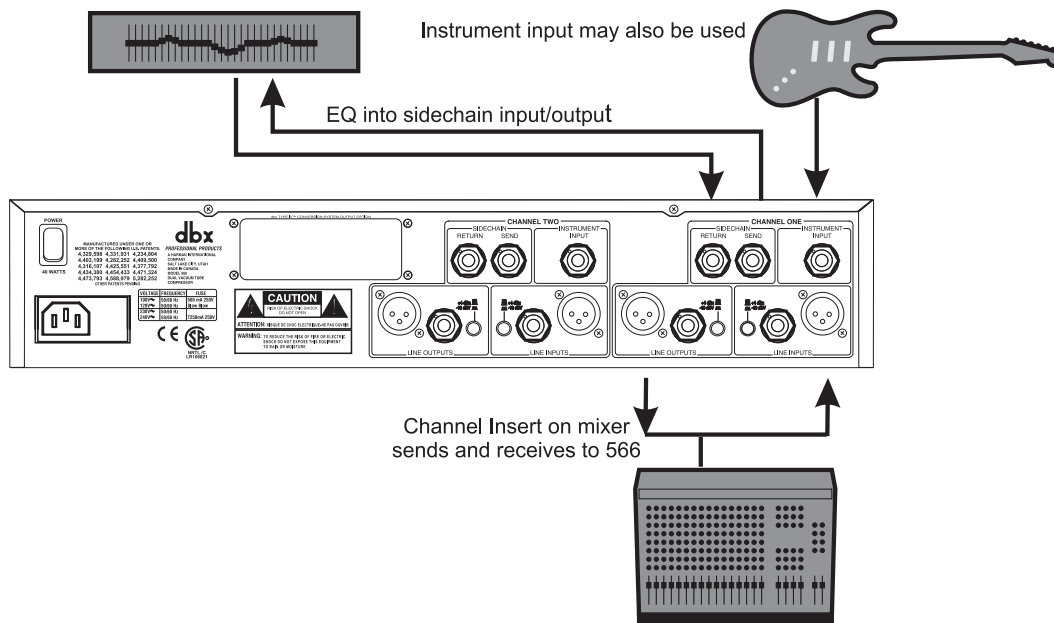

Figure 1: A typical 566 connection scheme
- Make audio connections via XLR, 1/4" TRS, or 1/4" TS plugs. Refer to Fig.1 for a typical studio connection layout. The XLR and 1/4" TRS connectors on the inputs and outputs can be used for balanced or unbalanced connections. However, the use of more than one connector at a time on the input pair could unbalance balanced lines, cause phase cancellations, short a conductor to ground, or cause damage to other equipment connected to the 566.